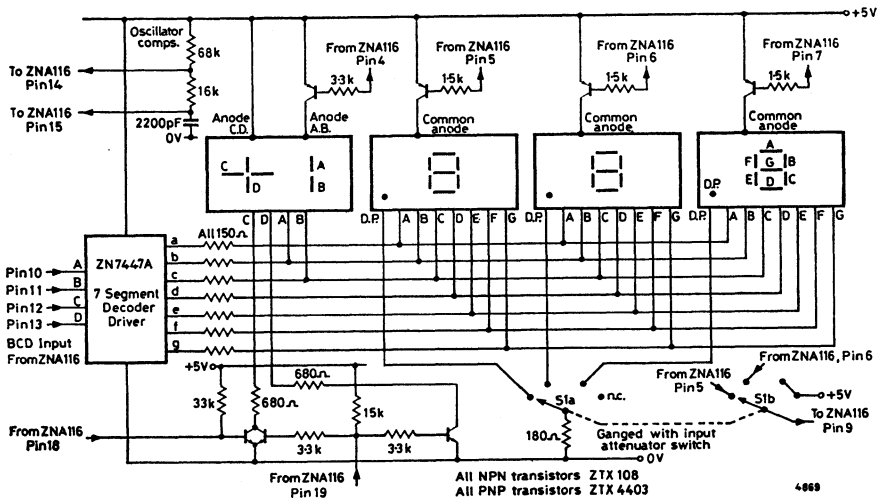

Figure 9.
*Note:* In the above diagram, switches S1c and S1d are ganged with S1a and S1b, the decimal point switch, shown in figure 9.